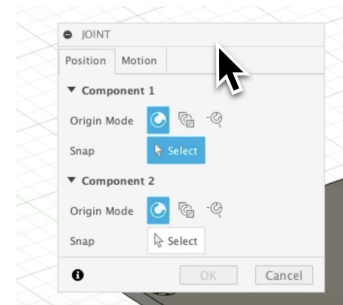

Figure 1.4
- After selecting Joint, a dialog box will appear where you can choose the joint type and set its position (see Figure 1.4).